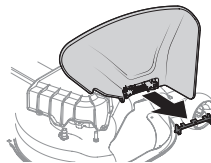

Fig. 11
- Holding the chute deflector fully upward, remove the stop bracket. Lower the chute deflector and discard the stop bracket (Fig. 11).